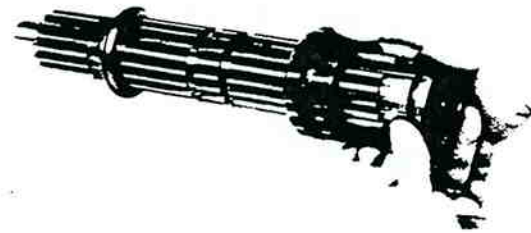

Figure 13-64. Removing 2nd-3rd Speed Sliding Clutch.
18. Remove the 2nd-3rd speed sliding clutch from mainshaft (figure 13-64).